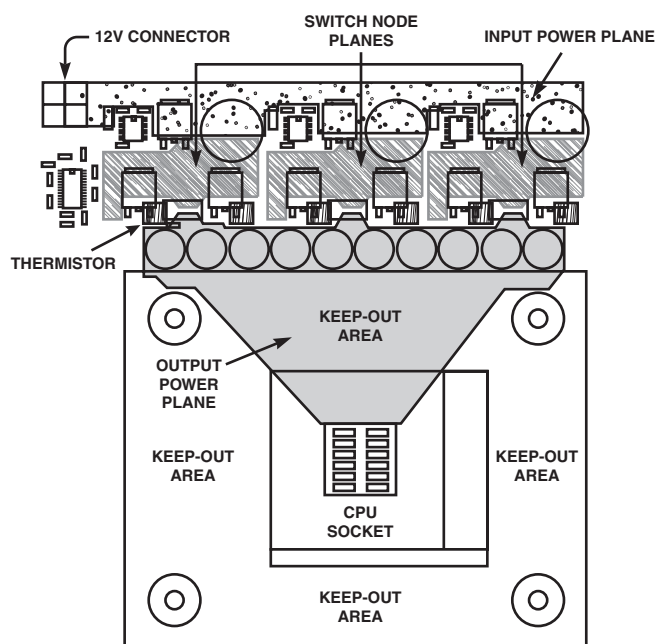

Figure 11. Layout Recommendations
The following guidelines are recommended for optimal performance of a switching regulator in a PC system. Key layout issues are illustrated in Figure 11.
- The components around the ADP3168 should be located close to the controller with short traces. The most important traces to keep short and away from other traces are the FB and CSSUM pins. Refer to Figure 11 for more details on layout for the CSSUM node.